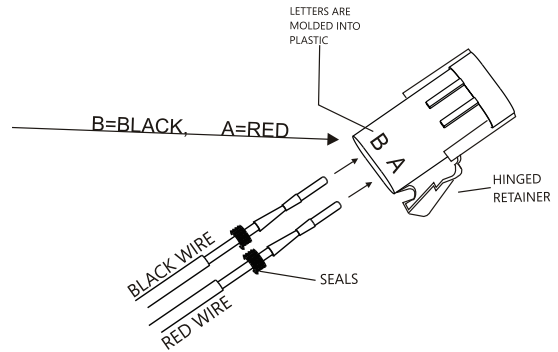

Figure 4-5
6. Attach connector to wire harness. Flip open the end connector's hinge retainer and insert the pins as shown. **See Figure 4-5.**